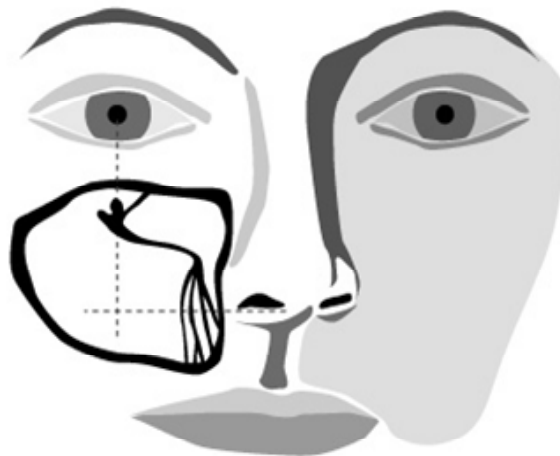

Figure 9 –Target Access Site Location
- c. After accessing gingival tissue, position Micro-Trocar tip on bony surface at the intersection location described in Figure 9.